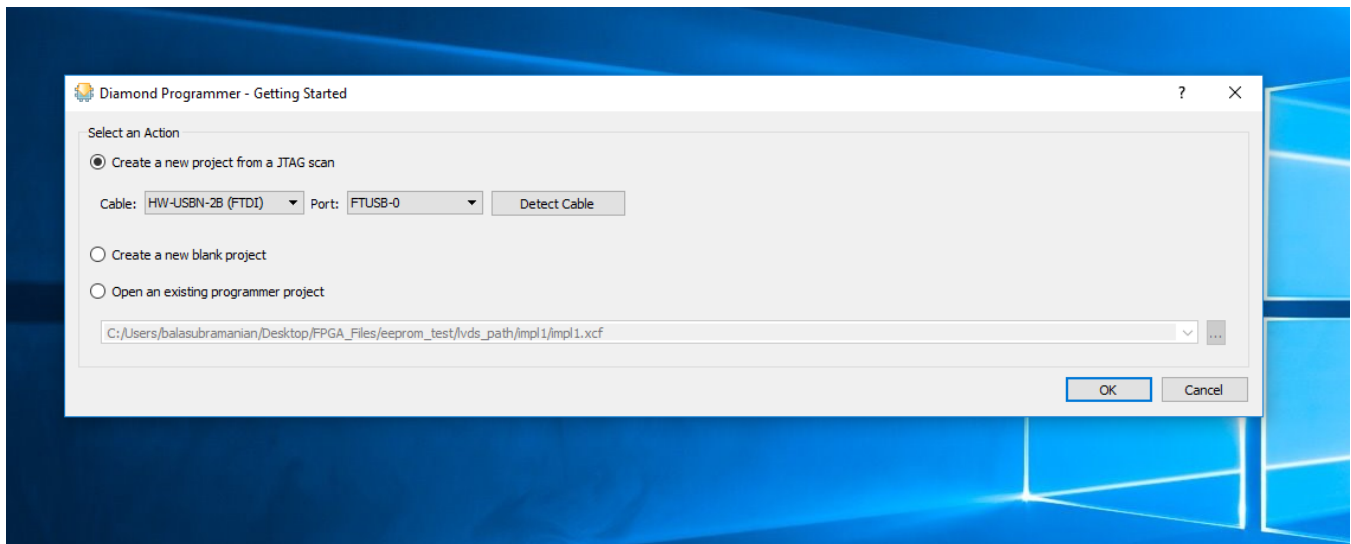

Figure 23. FTDI USB Cable Detection
1. Open the Lattice Diamond programmer tool from the Start menu and select Detect Cable. Click OK as shown in Figure 23.